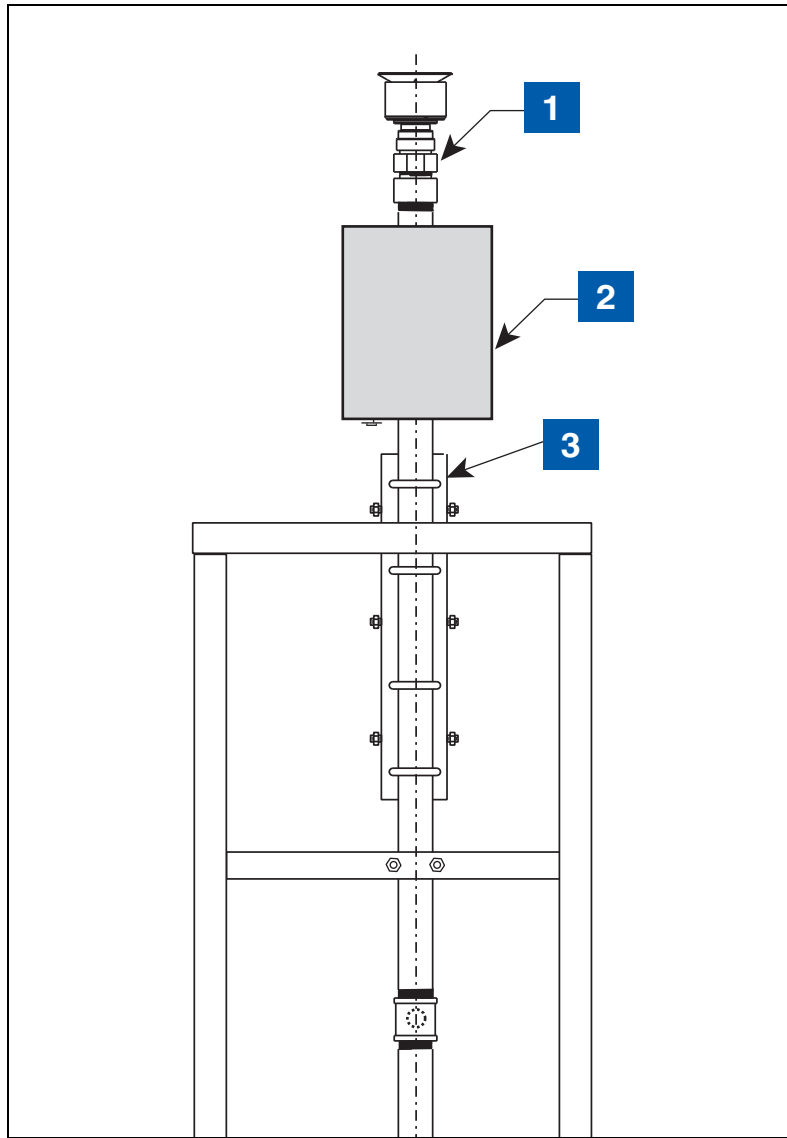

Figure 26. Example CCVP iNstallation Bracket And Universal Enclosure On Vent Stack
2. A Transmitter/battery pack pair must be installed with the Veeder-Root Carbon Canister Vapor Polisher (CCVP) in the Universal Enclosure mounted on the vent stack (see Figure 26).
**LEGEND FOR NUMBERED BOXES IN Figure 26**